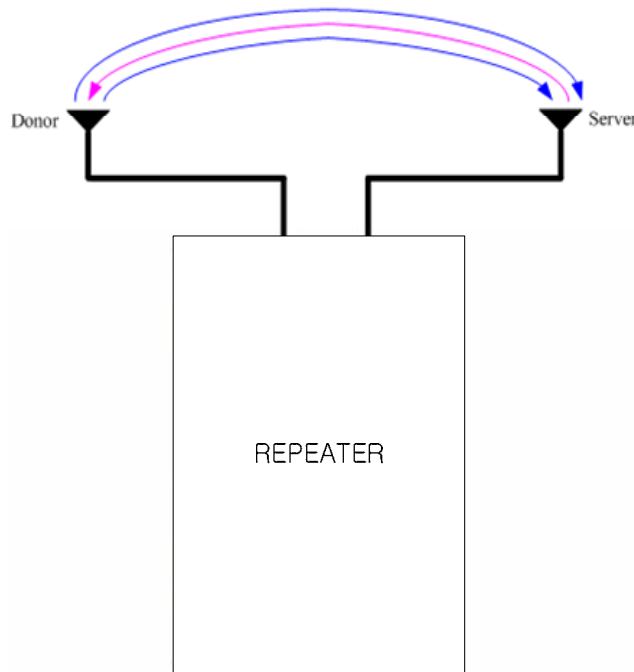

Figure 6: RF Repeater Oscillation
6. Once completed, the repeater should look like Figure 6